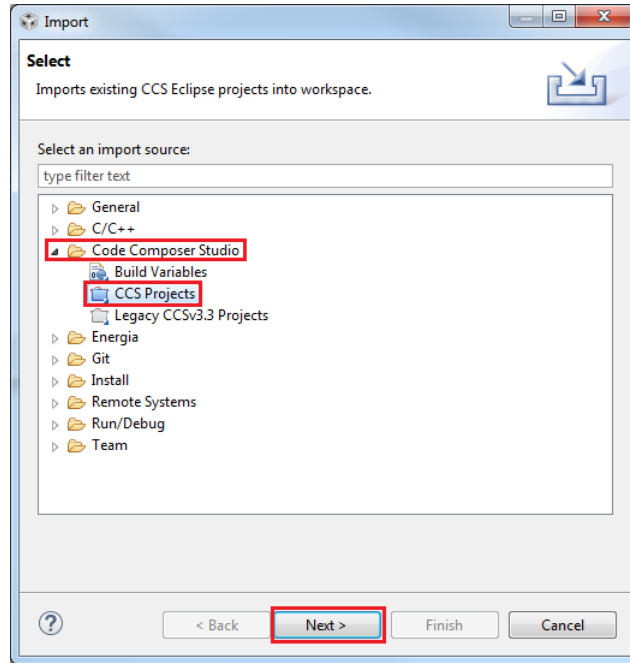

Figure 2. Import the Examples
3. Click *Code Composer Studio* to expand then click *CCS Projects*. Click Next (see Figure 2).